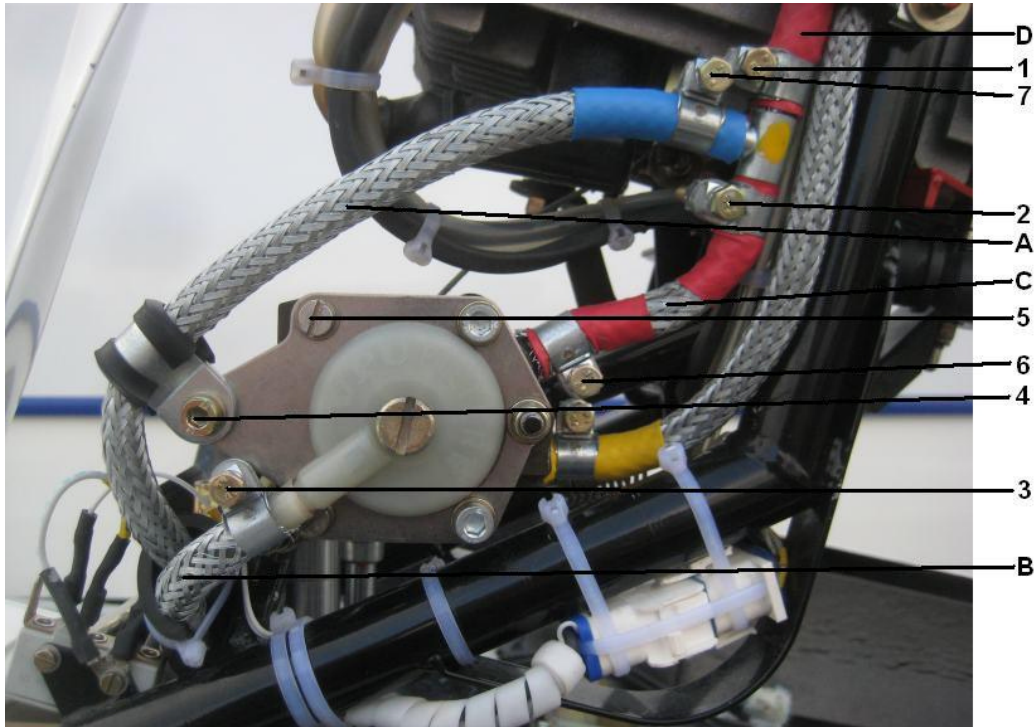

Figure 1 (initial configuration)
5. Loosen the hose clamps 1,2,3 and 6 and bolt 4 (see figure 1) and remove the T-connector between the hose clamp 1, 2 and 7. Remove the fuel hoses A, B, C and D. These hoses, bolts 4 and 5 and the T-connector won't be needed any more.